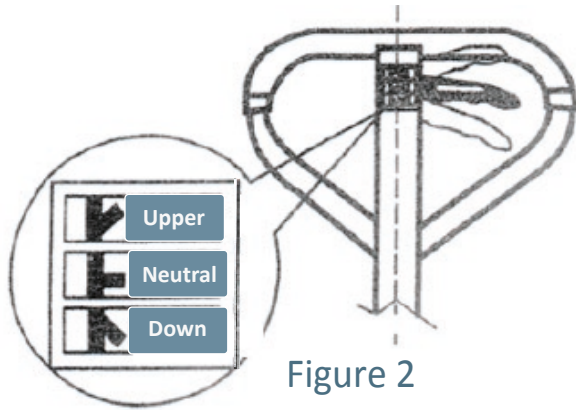

Figure 2
On the carrying handle is the trigger (118), which can be adjusted to three positions (see Figure 2).